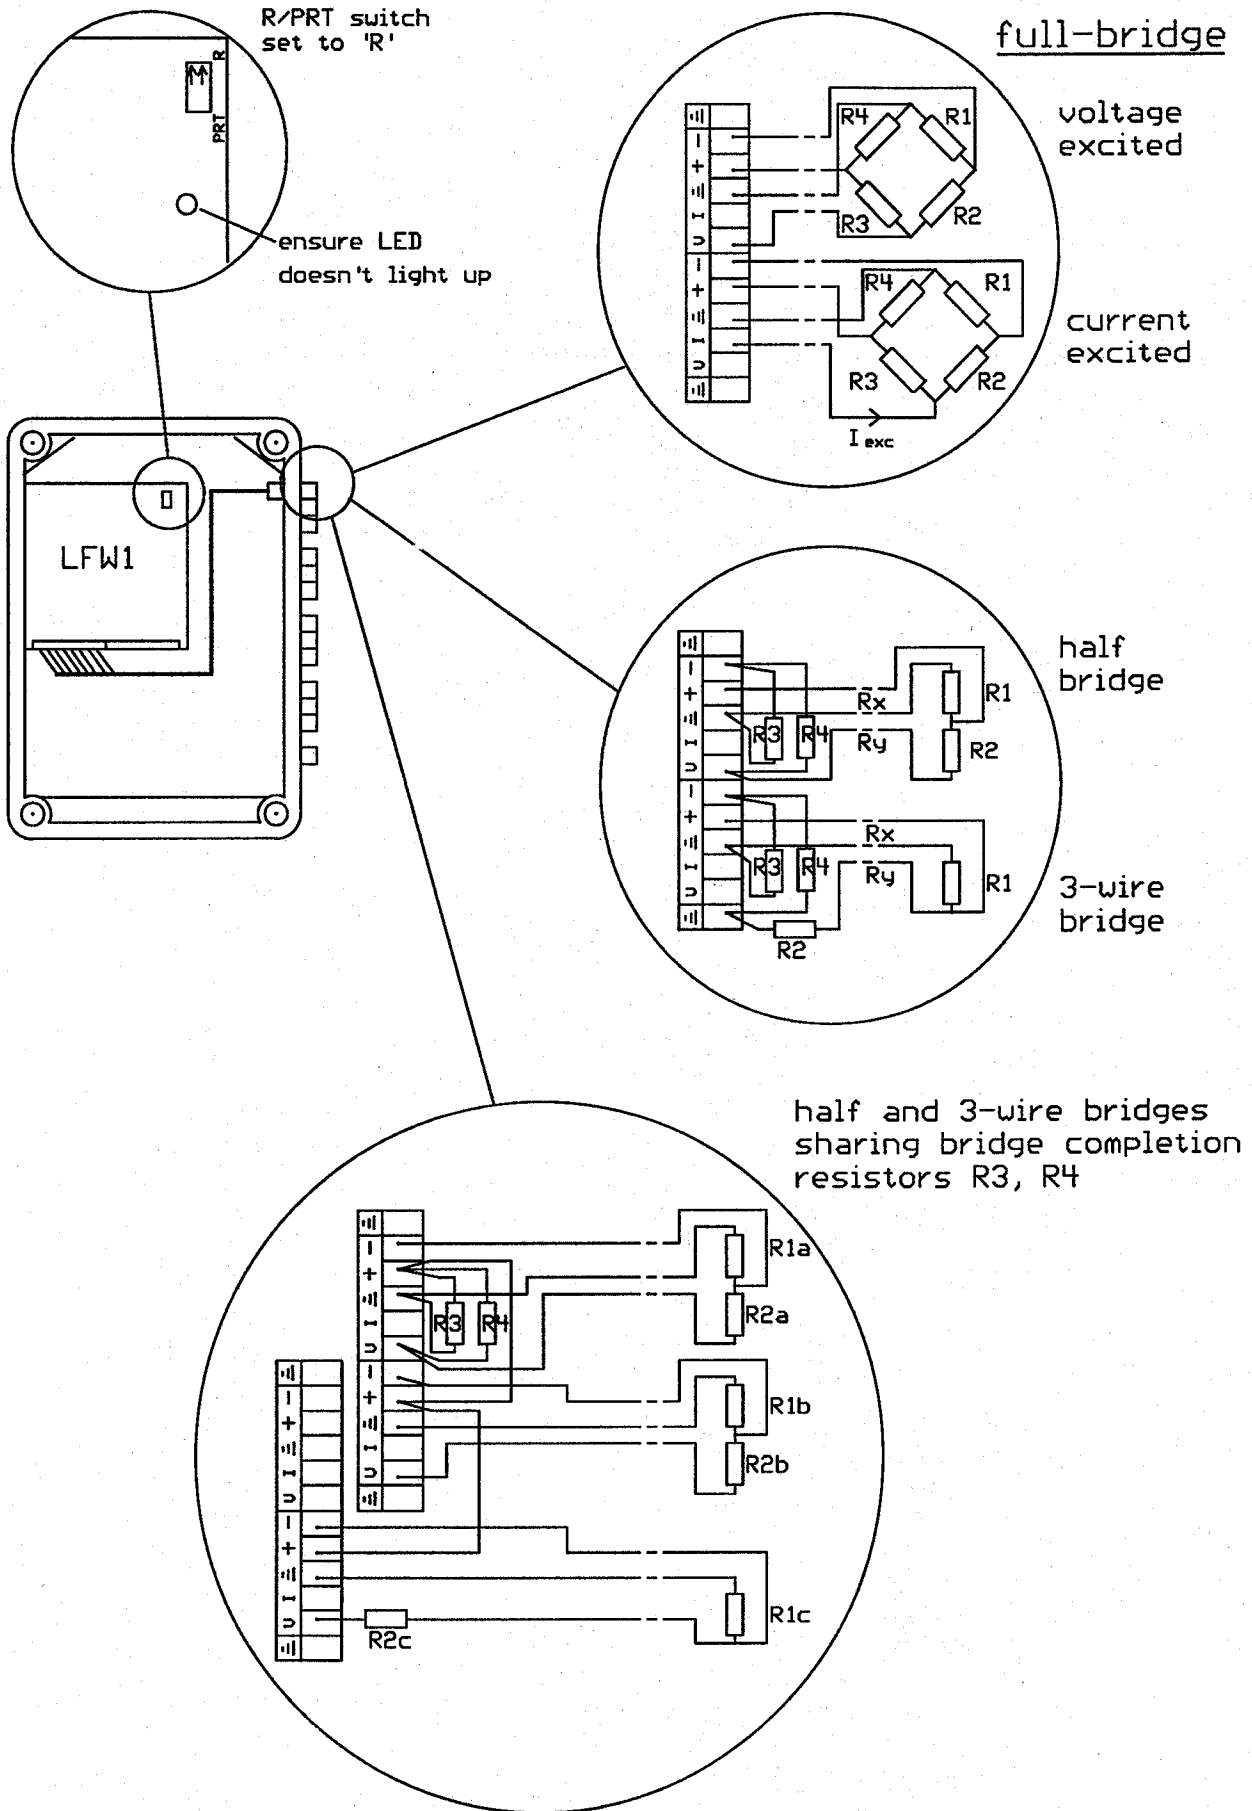

Figure 27 - Sensor connections: bridge measurements
- Connect the bridge to the I terminal instead of the V terminal (Figure 27 - Sensor connections: bridge measurements), and program the channel as a resistance channel with the required excitation current (see below). The excitation current is only applied to a channel while it is being read, as for normal resistance measurements.
- R3 and R4 can be shared between up to 6 similar half or 3-wire bridges in any terminal group, as illustrated in Figure 27 - Sensor connections: bridge measurements.